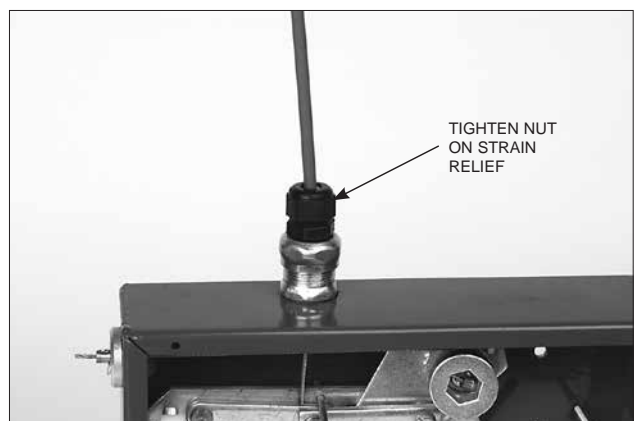

FIGURE 4-48
10. Tighten the strain relief nut onto the strain relief. See Figure 4-48.